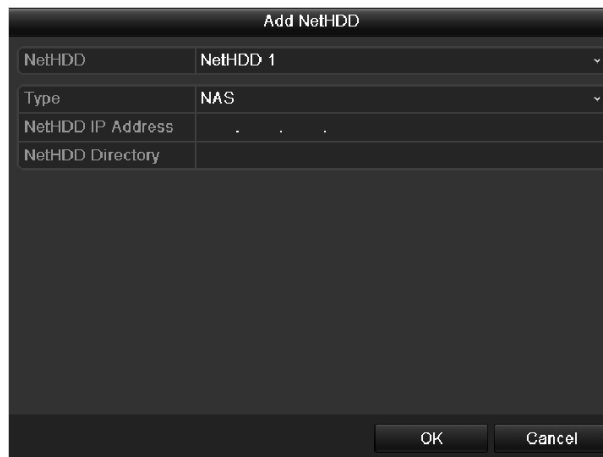

Figure 15-7 HDD Information Interface
Step 2 Click the **Add** button to enter the Add NetHDD interface, as shown in Figure 15-7.